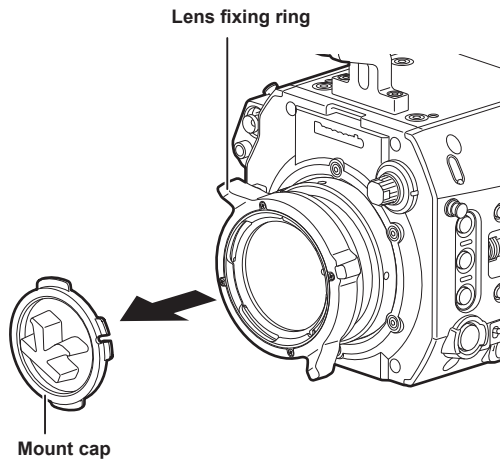

Fig. 1
5 Fix the two mounting screws. (Fig. 1)
- 1 Turn the lens fixing ring and remove the mount cap. (Fig. 1)